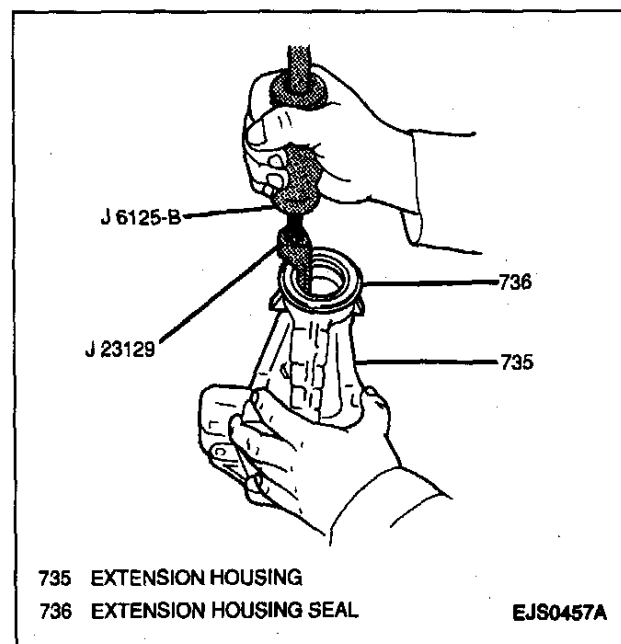

Figure 54—Removing Extension Housing Seal (3L30, 3-Speed)
16. Extension housing seal from extension housing using a J 23129 in conjunction with a J 6125-B (Figure 54).